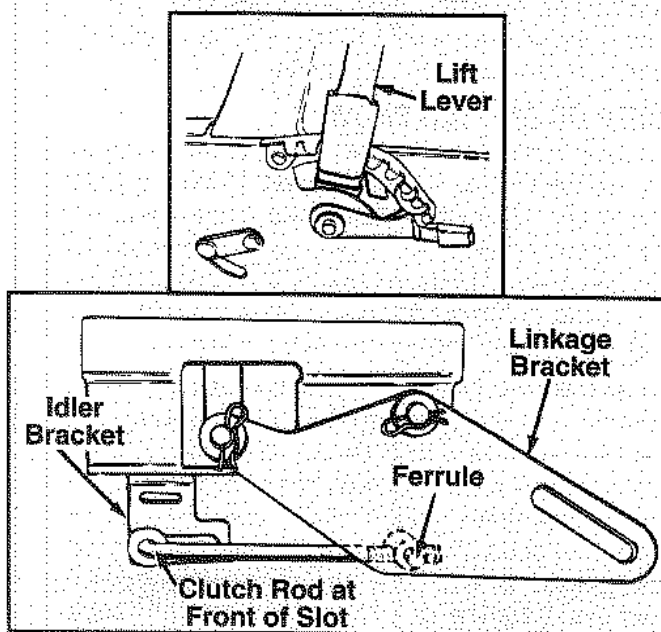

FIGURE 22.
- a. Place the lift lever on the tractor in the highest cutting height position (position just below disengagement) as shown in figure 22.
- b. Remove ferrule on the control rod from the linkage bracket by removing the cotter pin and flat washer. Adjust the ferrule so the control rod is as long as possible (other end of rod bottoms out at the front of the slot in the idler bracket assembly) as shown in figure 22. There should not be any pressure on the control rod.